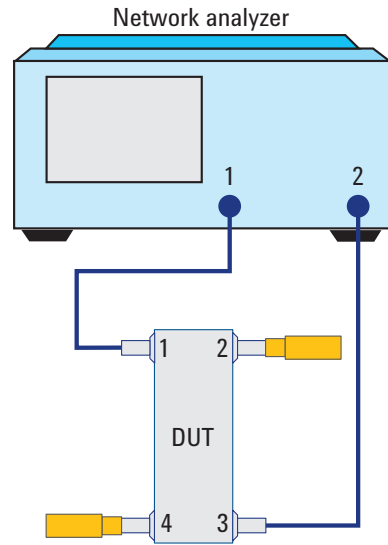

Figure 14. Equipment setup using network analyzer with coupler port 1 and port 3
6. Move test port 2 to port 3 of the DUT, see Figure 14. The unused port to be terminated with a 50 Ω termination. Measure and record -90 degree output port 3 VSWR (S33). Verify the measurement is within the limits as shown in the specification.